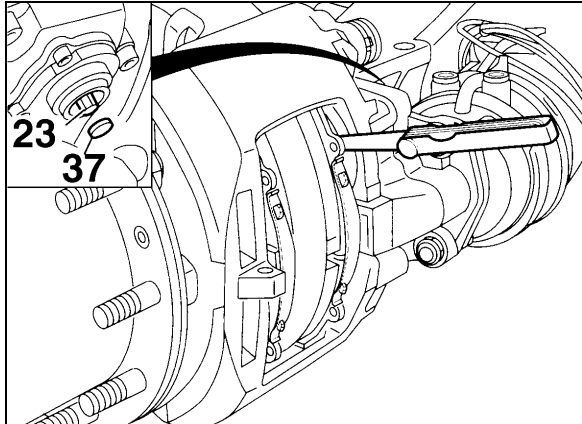

FIGURE 37: RUNNING CLEARANCE 12116
- a) Insert a feeler gauge 0.028 inch (0.7 mm thickness) between tappet and pad back-plate (Fig. 37). Turn adjuster pinion clockwise until 0.028 inch (0.7 mm) clearance is achieved. Replace cap (37) (Prévost # 641313).
- b) To ensure a constant running clearance between the rotor and pads, the brake is equipped with an automatic adjuster unit. When the pads and rotor wear, the running clearance between the pads and rotor increases. The adjuster (23, Fig. 37) and